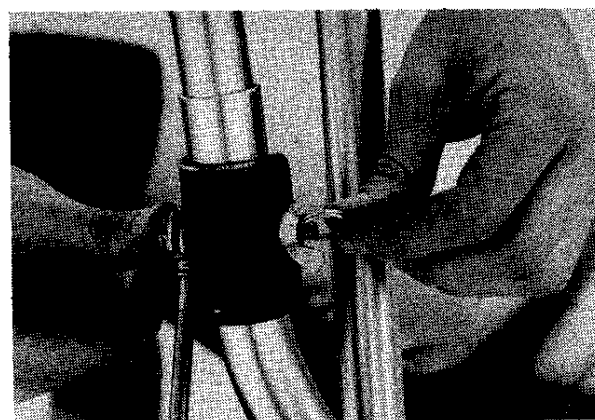

Figure 2.47
53. Attach bracket using AN4-20, wingnut, washer and safety ring. **Figure 2.47**